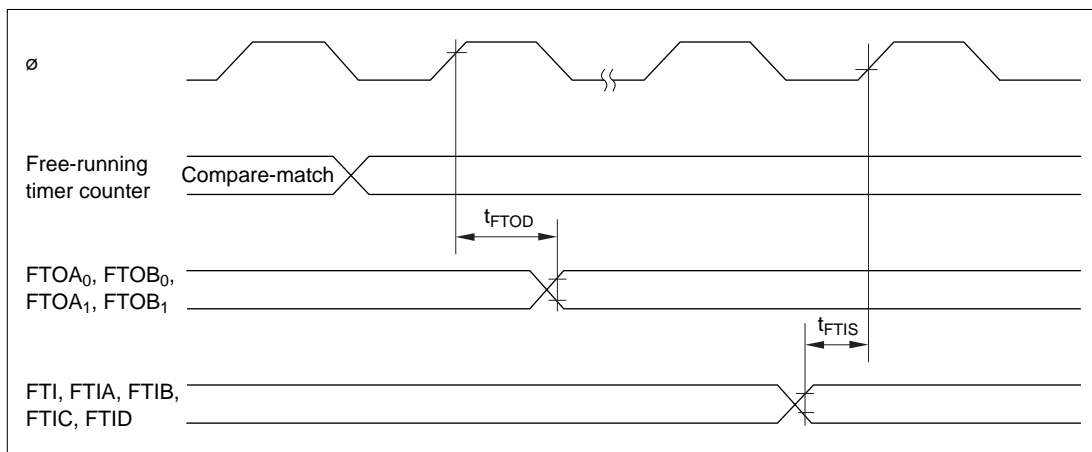

Figure 19.10 Free-Running Timer Input/Output Timing
19.3.3 16-Bit Free-Running Timer Timing	Figures 19.10 to 19.11